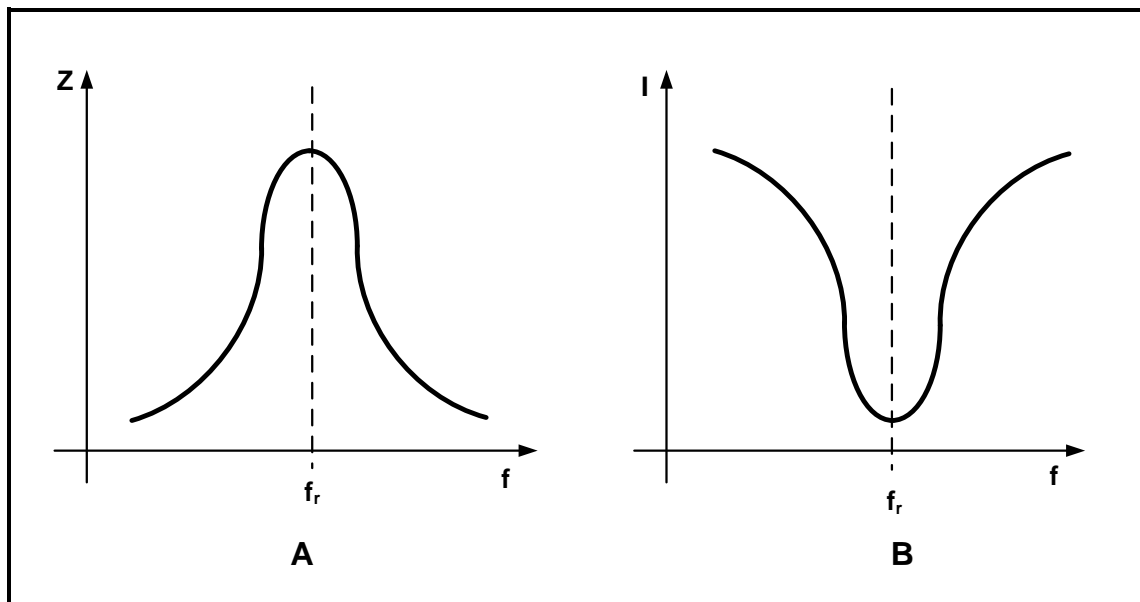

FIGURE 3.5: IMPEDANCE AND CURRENT RESPONSE CURVES
3.5 Refer to FIGURE 3.5 and answer the questions that follow.
- 3.5.1 Name the circuit that produces the response at **A** and **B** in FIGURE 3.5. (2)
- 3.5.3 Describe what happens to impedance when the frequency increases in FIGURE 3.5 **A**. (2)